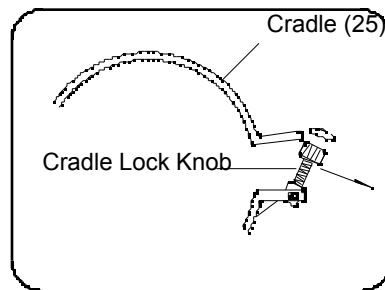

Fig. 3
1. Arrange the telescope so that the telescope body is horizontal to the floor (latitude of 0°). Loosen the **Right Ascension Lock (21)**. The telescope should now turn freely about the polar axis. Rotate the telescope about the polar axis so that the **Counterweight Shaft (7)** is parallel to the ground (horizontal).
2. Loosen the **Counterweight Lock Screw (located on the counterweight)**, and slide the **Counterweight (6)** along the shaft until the telescope remains stationary without drifting rotationally about the polar axis. Tighten the **Counterweight Lock Screw**, locking the **Counterweight** into position.
3. Now balance the telescope about the **Declination Axis**. Loosen the **Declination Lock Screw (18)** and the **Cradle Lock Knobs** (fig. 3) so that the telescope can slide freely inside the **Cradles (25)**. Slide the telescope up or down inside the rings until the telescope remains stationary without drifting rotationally about the **Declination Axis**. Tighten **Cradle Lock Knobs**. The telescope is now balanced.